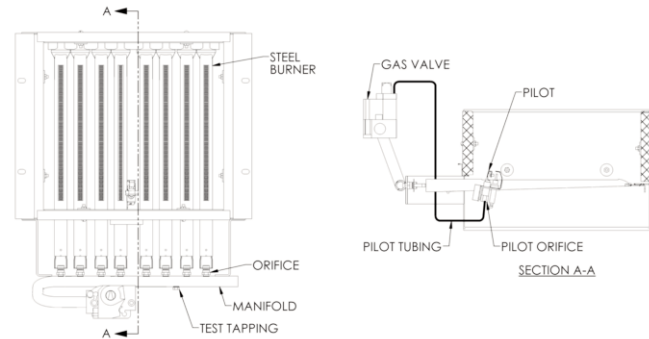

Figure 7.1: Gas Valve, Manifold and Burner Assembly – Intermittent Ignition
13. The gas manifold and control assembly are made of gas-tight, completely factory assembled and installed components of the base assembly. See Figure 7.1 and 7.2.